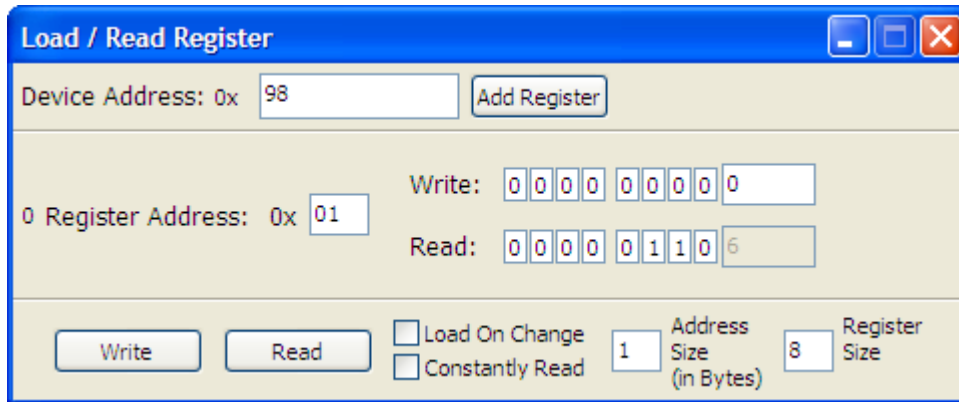

Figure 14 - Register Control Window
2. Enter the Device Address in HEX (see Figure 14)